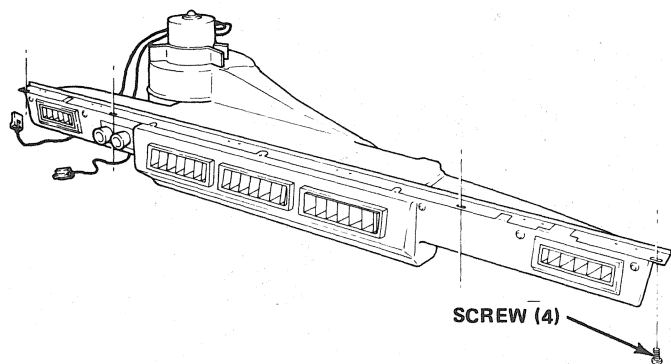

Fig. 3E-3 Evaporator Housing Mounting—CJ
(1) Discharge system as described in General Information section of this chapter.
(2) Disconnect inlet (suction) line at compressor.
(3) Disconnect receiver/dryer-to-evaporator hose.
(4) Remove hose clamps and dash grommet retaining screws.
(5) Remove evaporator housing-to-instrument panel attaching screws and the evaporator housing-to-mounting bracket screw (fig. 3E-3).
The blower motor, blower motor housing, and evaporator core may be serviced after the evaporator housing is removed (fig. 3E-4).